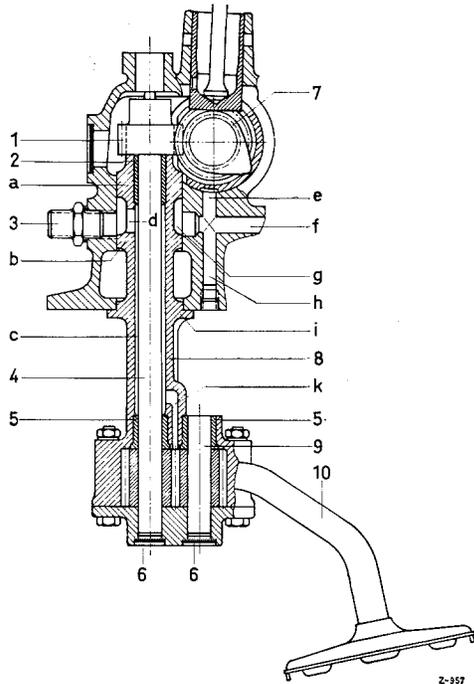

Figure 18-14/2
The oil pump is no longer repaired and is not considered in this description (see Figure 18-14/3).
**2nd version:** Suction pipe with suction strainer screwed to the upper part of the housing, height of gear housing  $h = 28$  mm, gears 24 mm high (see Figure 18-14/1 and 18-14/2).
**3rd version:** Suction pipe with suction strainer screwed to the upper part of the housing, height of gear housing  $h = 33$  mm, gears 29 mm high (see Figure 18-14/1 and 18-14/2).
**4th version:** Suction pipe with suction strainer **flanged** to the upper part of the housing (see Figure 18-14/1), height of gear housing  $h = 33$  mm, gears 29 mm high.